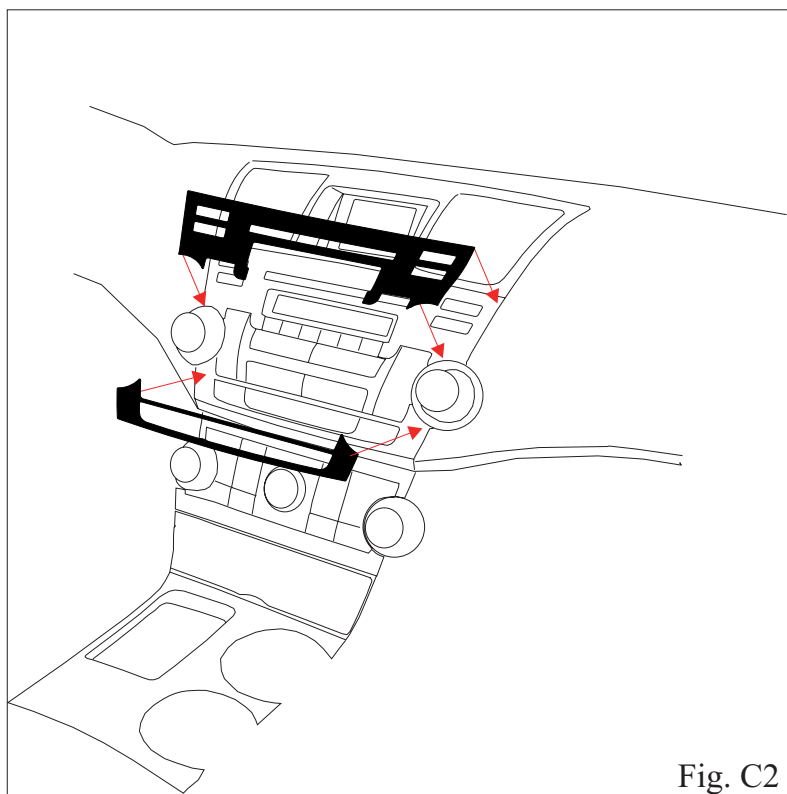

Fig. C2
A. Align part uniformly to edge of factory components. Edge of appliqué should be flush to edge of factory component,  $\pm 1.0\text{mm}$ . (Fig. C2).